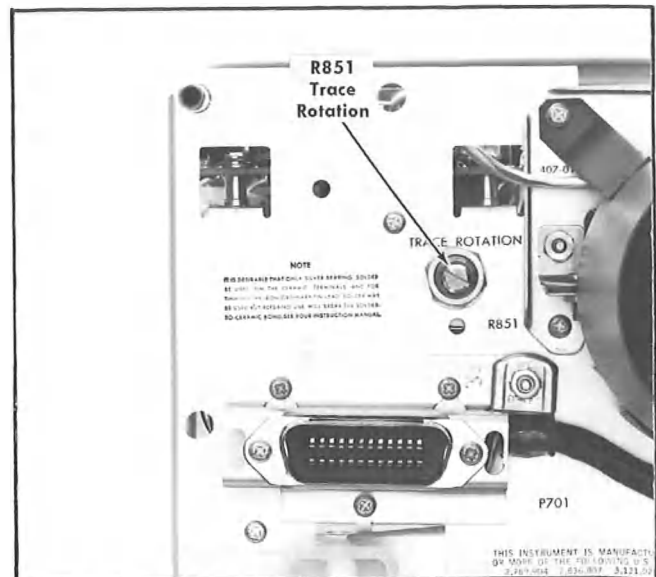

Fig. 5-9. Location of Trace Rotation adjustment (rear panel).
- d. ADJUST—Trace rotation adjustment R851 (see Fig. 5-9) so the trace is parallel to the center horizontal line.